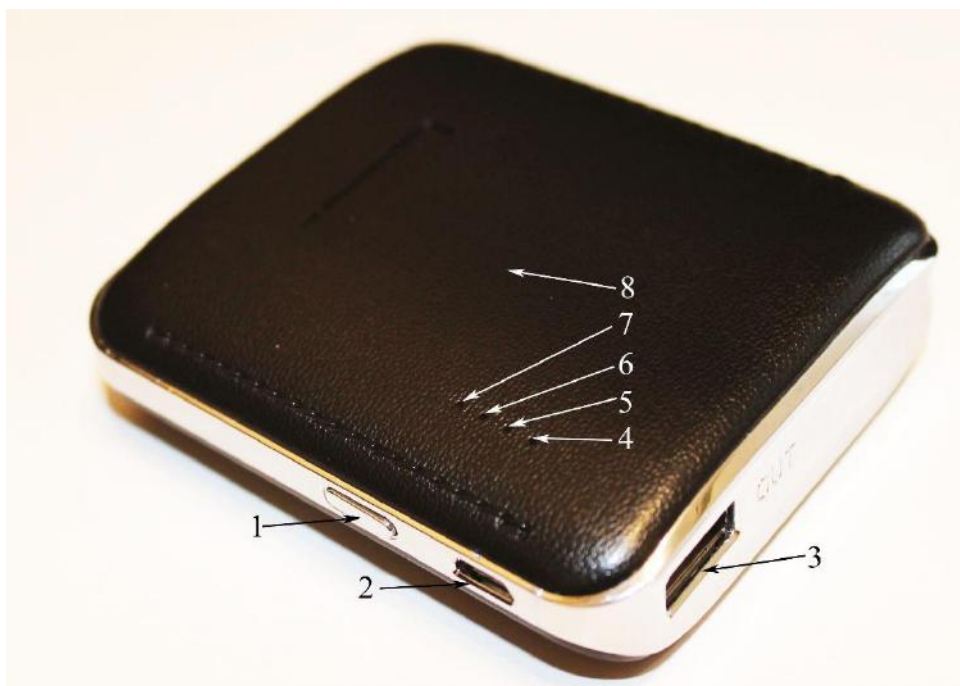

Fig. 1 Life Animal
- 5-7. Indicators of the selected program intensity. (5 – blue, 6 – yellow, 7 - green). Fig. 1
1. Turn on the device by holding the on/off button for 3-4 sec. (No. 1 Fig. 1). After that the device indicators will blink five times. The number of glowing LEDs is proportional to the battery charge, meaning that all 4 LEDs glowing indicate 100% charge, while 2 LEDs glowing indicate 50% charge.
The device has 4 intensity levels, with the 1st level turned on by default (a red indicator). To change the signal intensity level while the selected program is running, press the on/off button (position 1, fig. 1). The red indicator (the 1st level) will start glowing. When you press the button again, you will see the blue indicator glowing, next - yellow and green indicators which correspond to the 2nd, 3d and 4th intensity levels. After that, the device will switch again to the program run indication which is a flashing green indicator.
Turn on the device by pressing ON (No. 1, Fig.1) and holding it for 3-4 sec until the red indicator flashes (No. 7, Fig. 1). This option protects the device from accidental turn-on/off. The device will immediately start the embedded program (with the green indicator flashing).